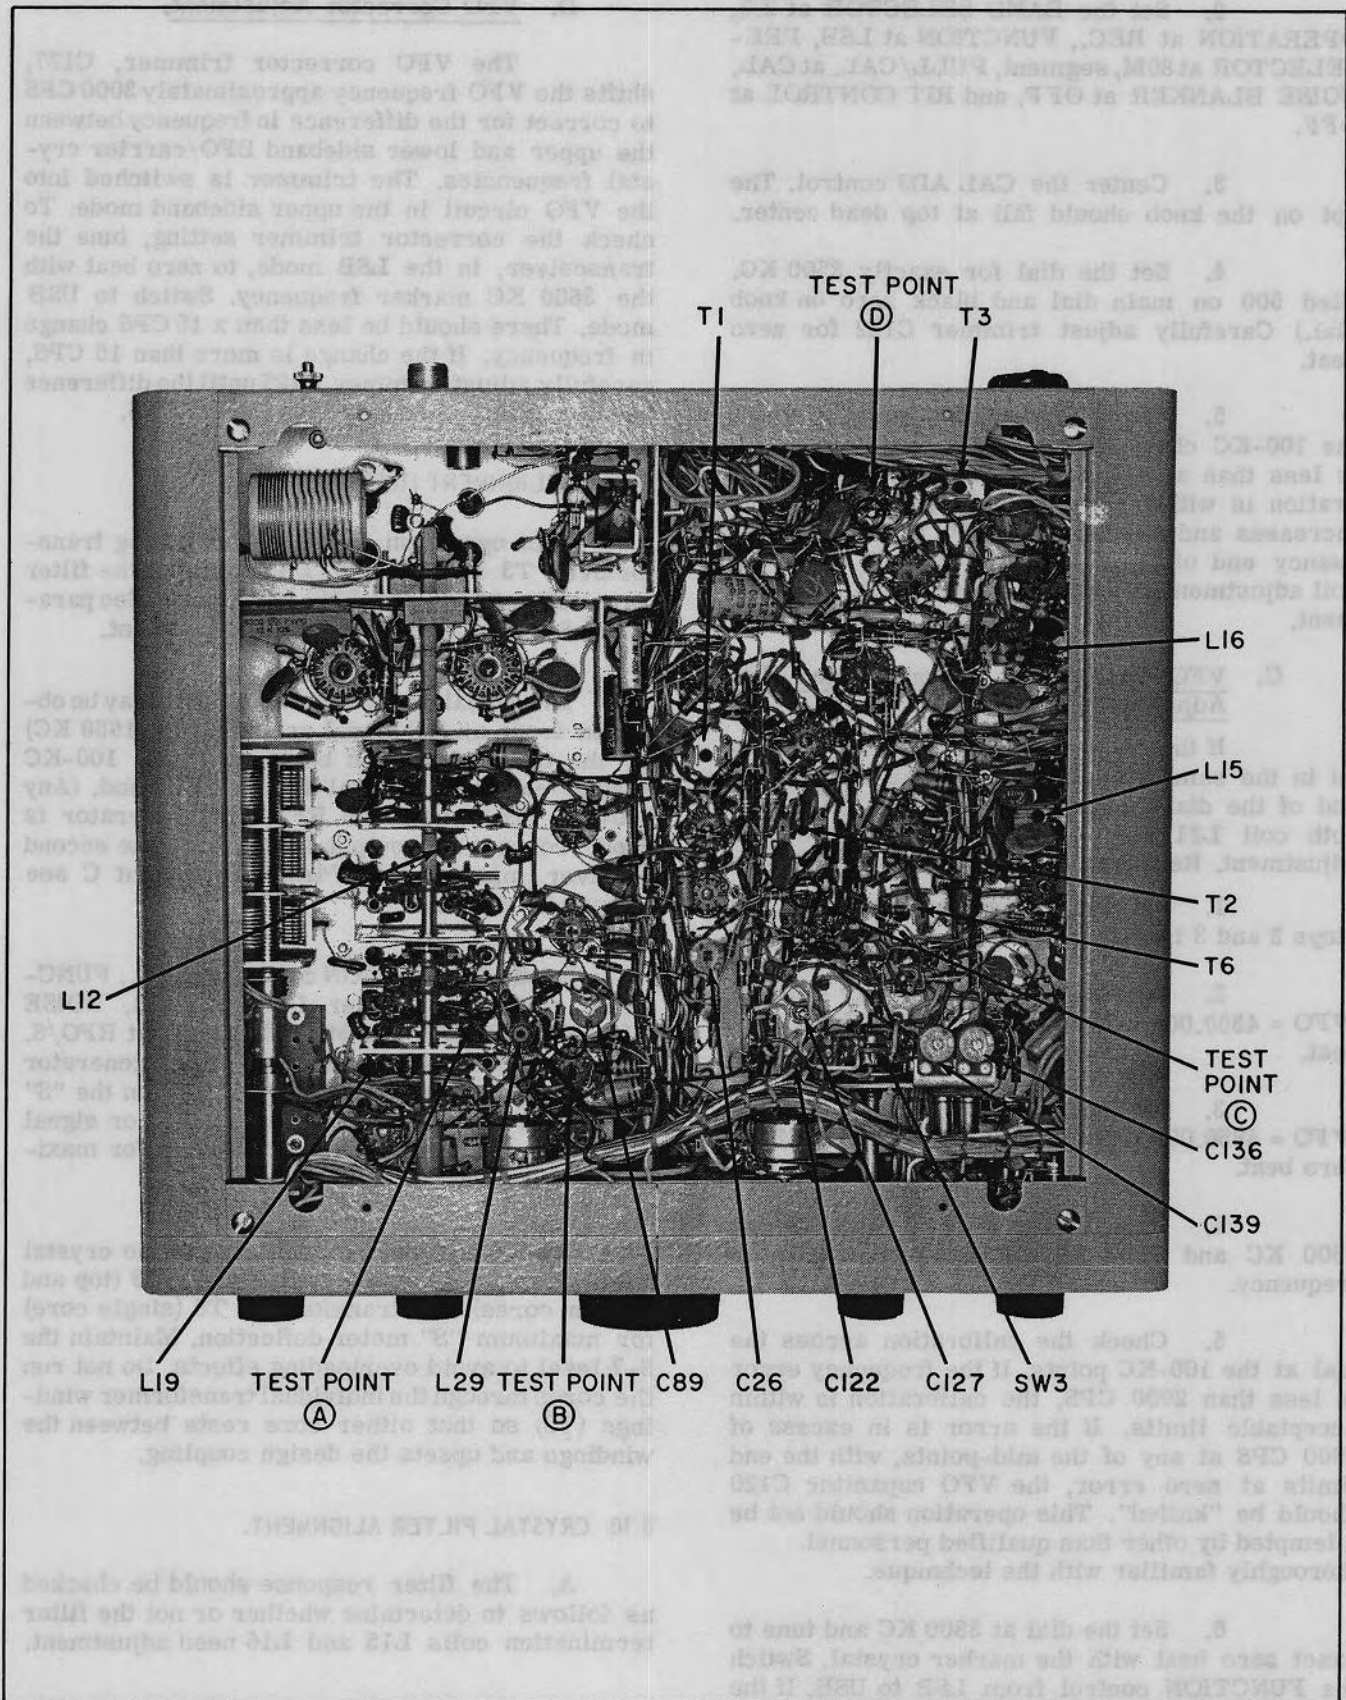

Figure 17. Model SR-400 Bottom View, Alignment Adjustment.
The transceiver should be allowed to reach operating temperature before making the carrier balance adjustments. Remove the top cabinet cover per paragraph 7-1A to gain access to the carrier balance adjustments C192 and R132 (see figure 17).
1. Remove the bottom cabinet cover per paragraph 7-1B to gain access to the adjustment screw of trimmer C122. See figure 17 for location of the trimmer.
The signal source for alignment may be obtained from an RF signal generator (at 1650 KC) or the transceiver can be tuned to the 100-KC crystal calibrator signal in the 20M band. (Any 100-KC marker.) If an RF signal generator is used, connect its output to pin 2 of the second receiver mixer tube (V4A). (Test point C see figures 17 and 31.)
A. Remove the heterodyne oscillator tube (V12) and connect the HP410B VTVM RF probe to test point B. (Pin 7 of the second transmitter mixer tube V11A.) See figures 17 and 31.
A. Connect the 50-ohm dummy load and VTVM RF probe to the ANTENNA jack (J1 or J2). Connect the RF signal generator termination to test point A (see figures 17 and 31). Connect the signal lead to the receiver antenna coaxial cable termination at switch wafer SID (4th wafer from front) and the ground lead to the first shield plate. Connect the AF voltmeter across the 500-ohm audio output transformer winding at the AUDIO 500 ohm jack (J5) located at the rear chassis apron. This arrangement will now permit transmitter and receiver operation without connecting and disconnecting test equipment repeatedly during alignment.
E. Set the OPERATION control at REC., RF GAIN and AF GAIN controls at maximum (10), RIT control at OFF and NOISE BLANKER at OFF. Do not change the VFO setting and PRESELECTOR control setting set up in step D. Tune the RF signal generator to 28,000 KC and adjust it for approximately 1000 CPS beat note. Use just enough signal generator output (approximately one microvolt for an aligned unit) to keep from developing AVC voltage (no "S" meter indication). Adjust coil L5 for maximum audio output without developing AVC voltage.
A. Set the core of transformer T4 before setting the oscillators to frequency. Connect the VTVM RF probe at test point D (Pin 8 of the product detector tube V9A), (see Figures 17 and 31). Set the OPERATION control at REC and check the injection voltage at test point D for both LSB and USB settings of the FUNCTION control.
The heterodyne crystal oscillator injection may be checked in the following manner to determine whether or not the core of coil L19 requires adjustment. Connect the VTVM RF probe to test point B (pin 7 of the second transmitter mixer tube V11A). (See figures 17 and 31.) Disable the VFO injection by removing VFO tube V13. Set the OPERATION control at MOX and the FUNCTION control at TUNE. Record the RMS injection voltage for all settings of the BAND SELECTOR control. Injection is normal if the injection voltage measures 2.0 to 2.5V RMS on 80M and 40M, 1.0 to 1.2V RMS on 20M and 15M, and 0.75 to 1.0V RMS on the 10M segments.